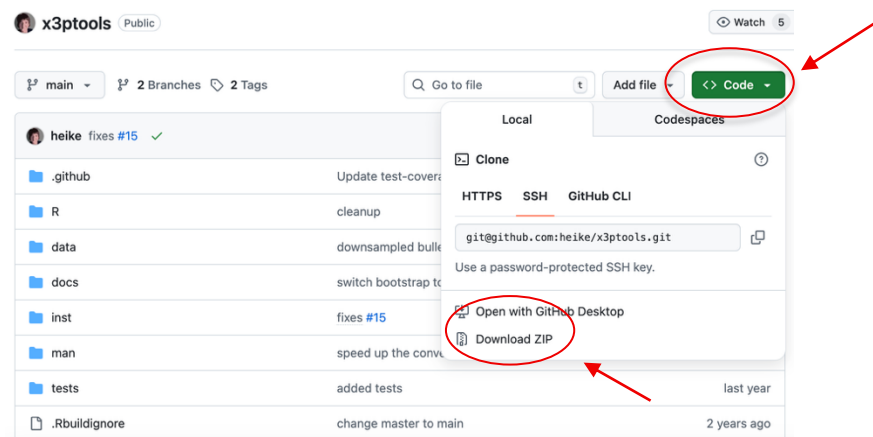

Figure 2. Click Code and then Download ZIP on the x3ptools GitHub page to download x3ptools.
- Click the green Code button and select Download Zip. (Figure 2)